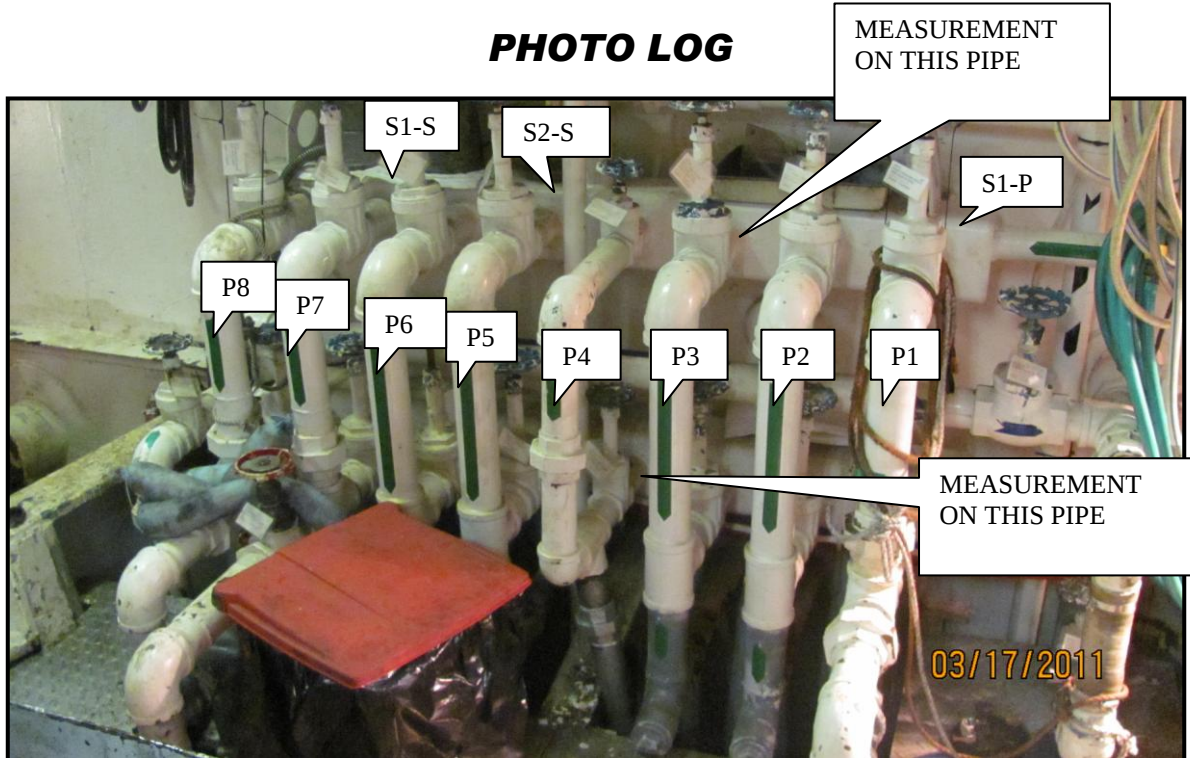

Figure 1 General view of the Suction and Discharge manifold and associated piping. Suction and discharge pipes were tested at the same locations.
1. Engine Room salt water ballast manifolds and associated piping. The Suction and discharge manifold and first pipe from the manifold was tested. See Figure 1